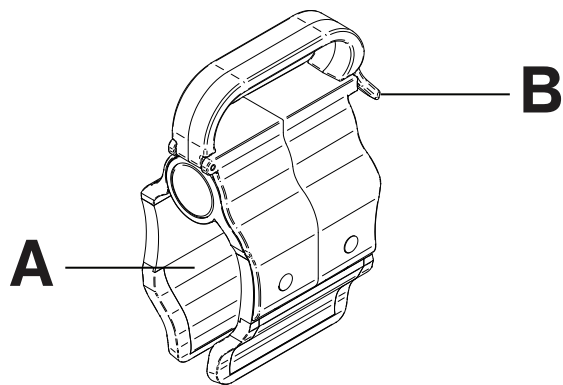

Figure 115 – Line management clip
1. Open the clip (A) (Figure 115).
1. Raise the clip prong (B) (Figure 115).